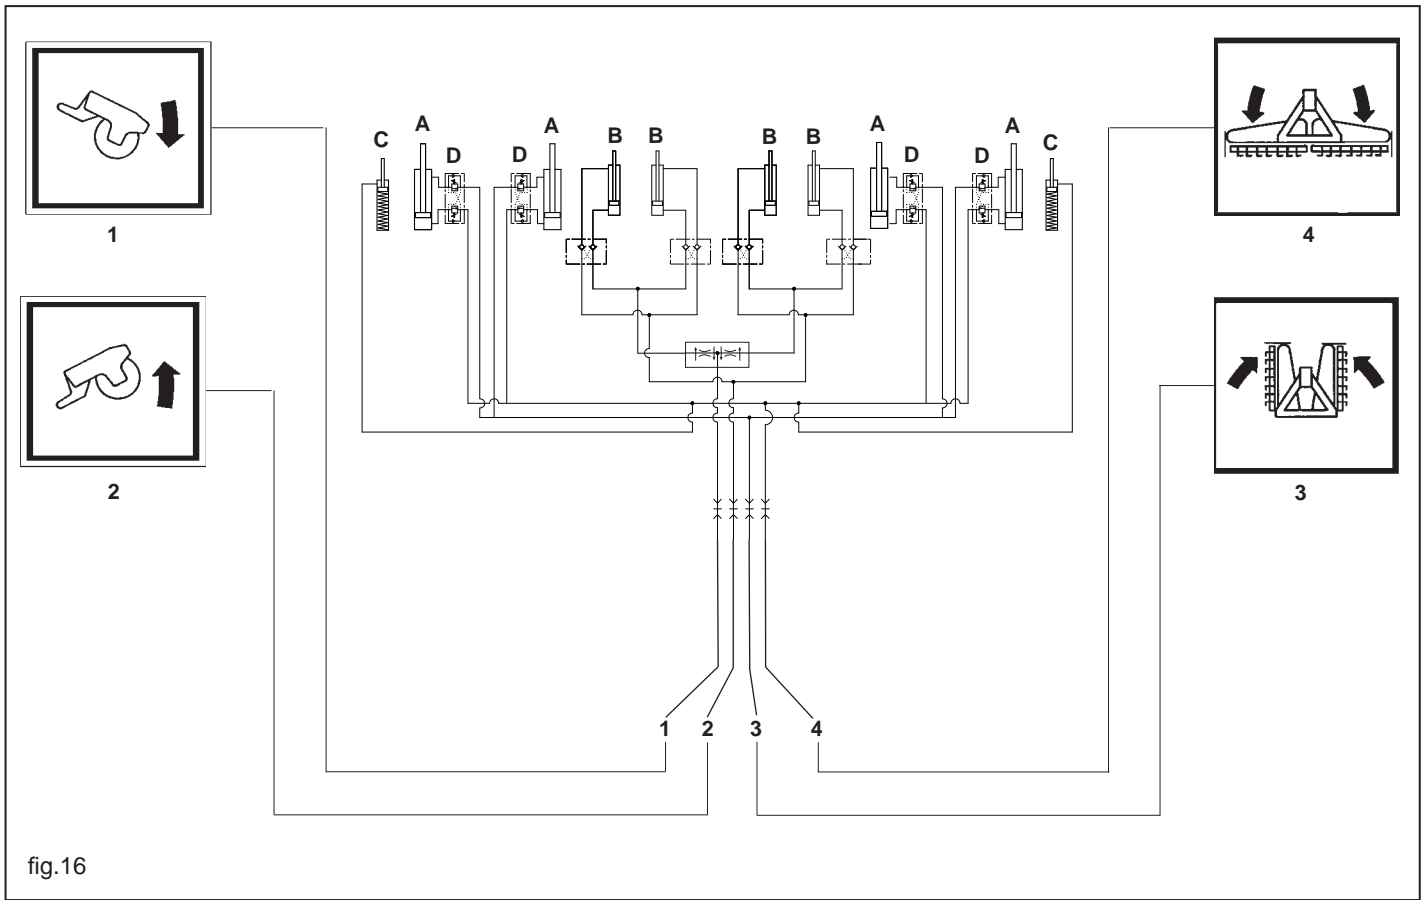

fig. 16
- Operate the lever of the valve system that closes the units: pressure delivered to pipe (3 Fig. 16) until full connection of the hydraulic safety hooks ("CLACK")
- Operate the lever of the valve system that opens out the units: pressure is delivered to pipe 4 (Fig. 16).
The hydraulic pipes have recognition stickers (Fig. 16) showing: